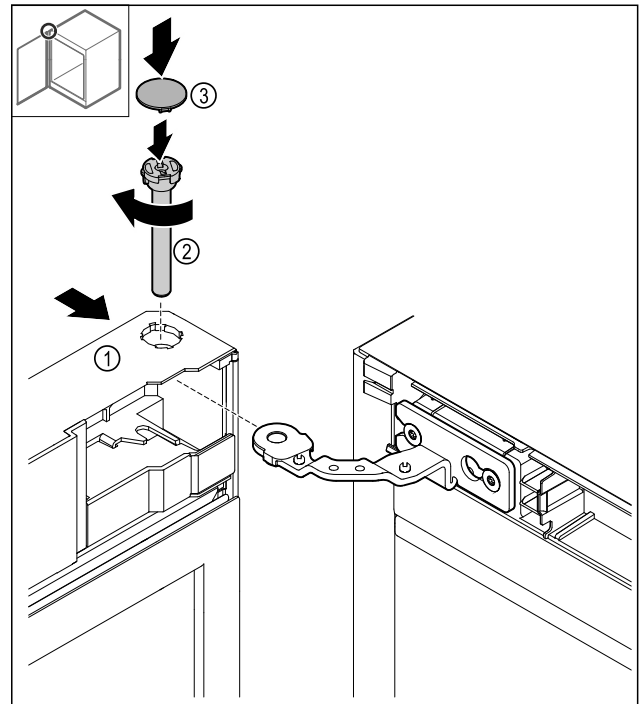

Fig. 46
- ▶ Push the door Fig. 46 (1) up onto the hinge.
- ▶ Insert the pin Fig. 46 (2) firmly screw it in clockwise.
- ▶ Put on the Fig. 46 (4) cover.